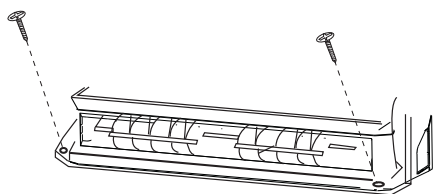

Fig3
- Remove the front panel,then use two expansible screws to fix the unit on the floor.As figure 3 shown.